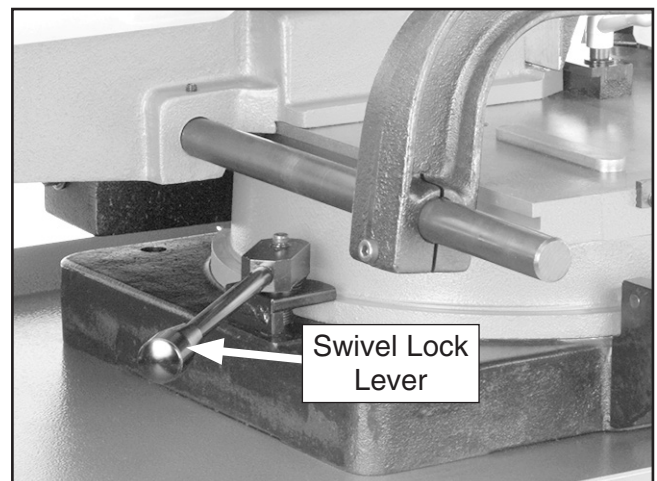

Figure 45. Location of swivel lock lever.
4. Loosen swivel lock lever (see **Figure 45**).